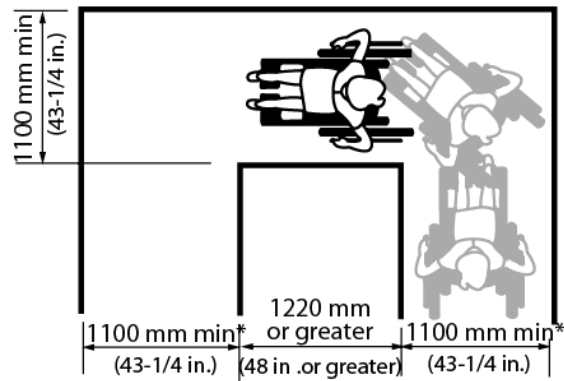

Figure 61: Turn Around an Obstacle Greater than 1200 mm Wide
- Are 1220 mm around an obstacle that is less than 1220 mm wide (Figure 61)